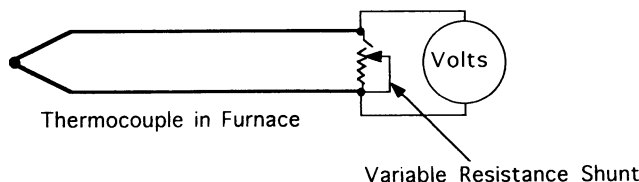

FIG. 1 An Alternative Method to Measure Loop Resistance
8.1.3 An alternative method ~~which may be used~~ to determine the loop resistance of a thermocouple at ~~elevated~~temperatures ~~is~~which is in service is to shunt the thermocouple at ~~the~~its connector ~~prongs~~pins with a variable resistor. Measure the ~~open-switch~~thermocouple~~thermocouple's~~ open circuit Seebeck voltage between the connector ~~prongs~~pins with a high impedance voltmeter capable of measuring ~~accurately~~ in the microvolt range (see Fig. 1). The ~~measuring junction must be at constant temperature and the connector prongs must remain at the same terminal temperature during this~~temperature of the thermocouple's measuring junction and the ~~connector's pins must remain stable during the test~~. Close the switch and adjust the resistance of the variable resistor until the ~~closed-switch~~measured closed circuit voltage is 1/2 that of the ~~open-switch~~open circuit Seebeck voltage (at ~~which time~~—this will occur when the variable resistor has the same resistance as the ~~thermocouple~~thermocouple's loop). The variable